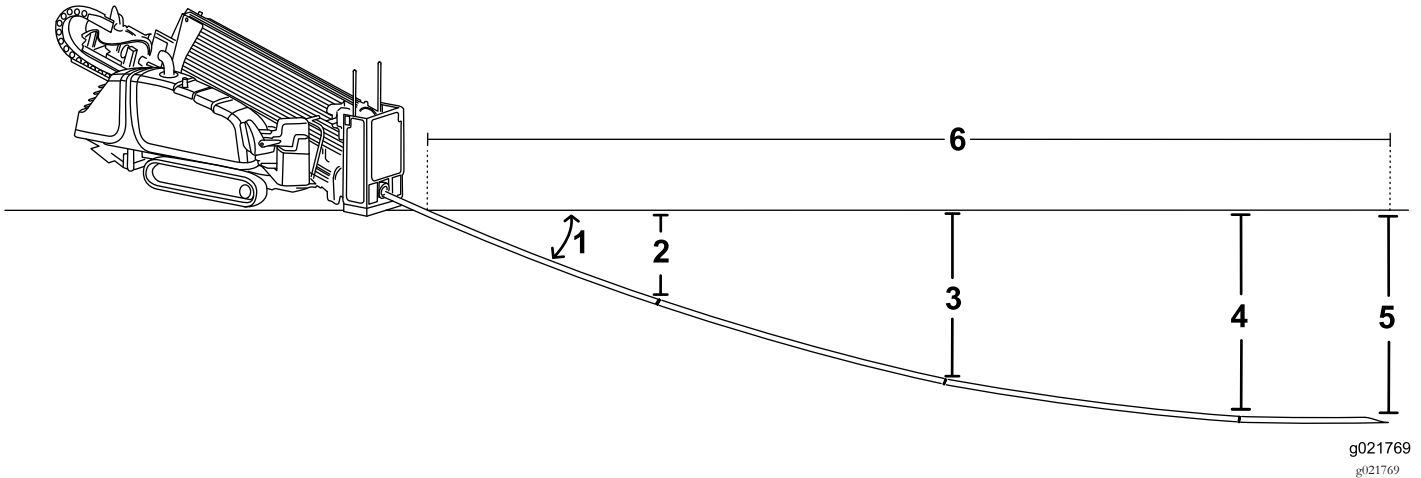

Figure 11
- You insert the first 3 m (10 ft) of drill bit/pipe into the ground with no steering. The end of the drill bit will be 53 cm (21 inches) deep (Figure 11).